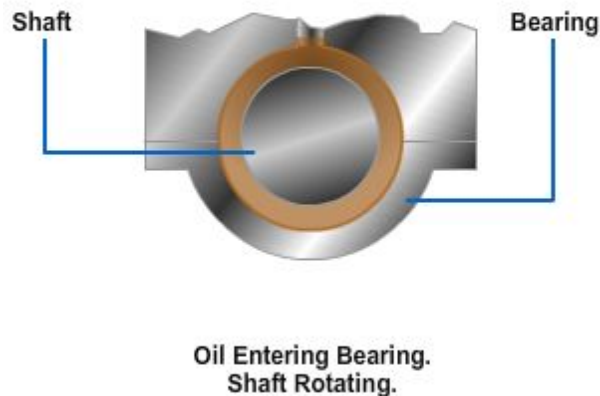

Figure 6-15 — How oil lubricates.
- Reduces friction and wear between moving parts (*Figure 6-15*).